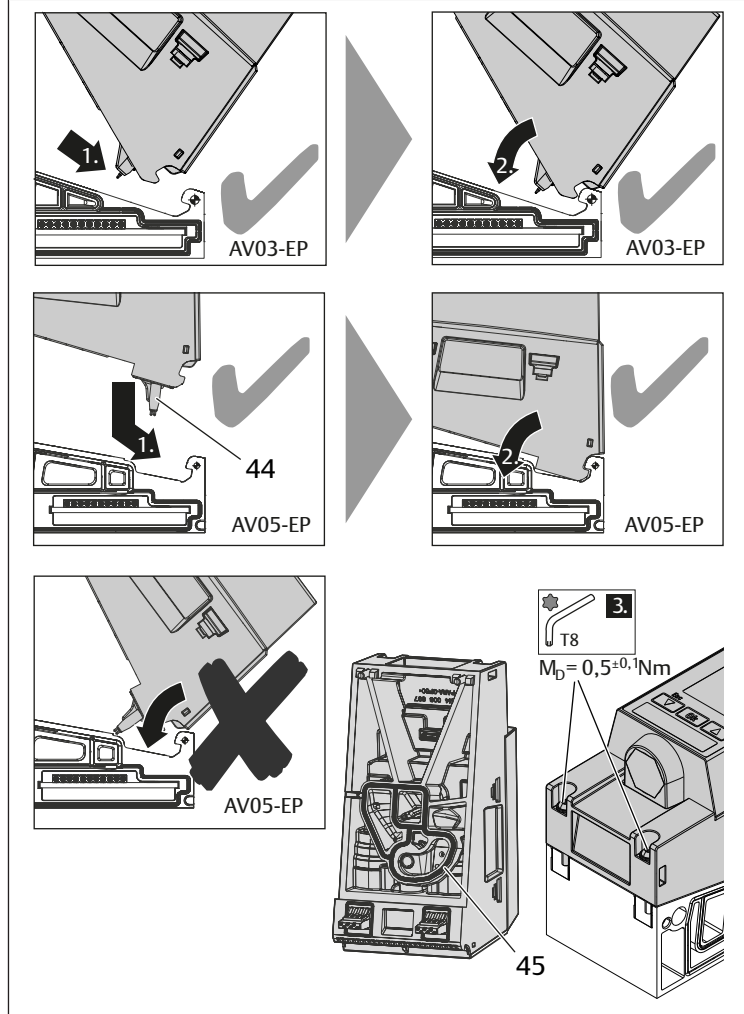

Fig. 16: Assembling the AV-EP pressure regulator on a base plate
- Place the AV-EP on the rotational axis \ast as follows (see Fig. 16):
- Fold down the AV-EP so that it rests on the AV-EP base plate. Make sure the seal (45) is positioned correctly in the pressure regulator.